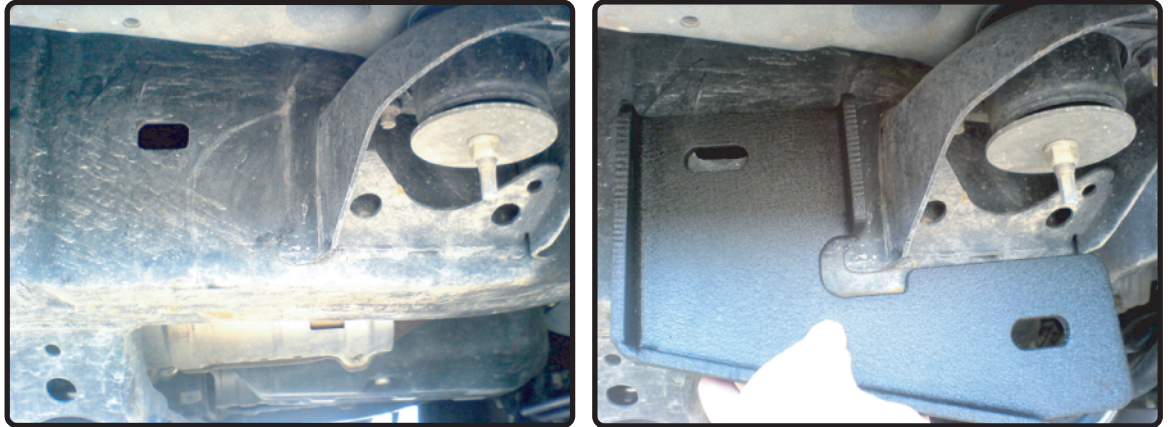

FIG 3
STEP 3 INSTALL FRONT BRACKETS USING THE FRAME LOCKING BOLTS, PLASTIC WASHER, 7/16" FLAT WASHERS , 7/16" LOCK WASHERS AND 7/16" HEX NUTS. **(FIG 3)** HAND TIGHTEN ALLOWING FOR FINAL ADJUSTMENTS.